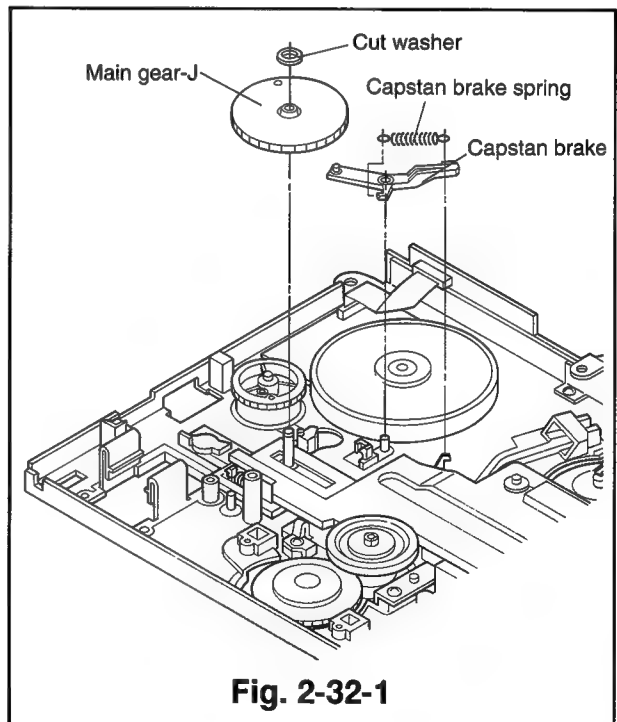

Fig. 2-32-1
- ① Remove the reel belt. (Refer to Para. 2-28 for the removal method.)
- ② Remove the loading motor assembly(which holds the motor holder). (Refer to Para. 2-29 for the removal method.)
- ③ Remove the main gear J. (Refer to Para. 2-30 for the removal method.)
- ④ Raise the capstan brake upward to remove it along with the capstan brake spring. (Refer to Fig. 2-32-1.)